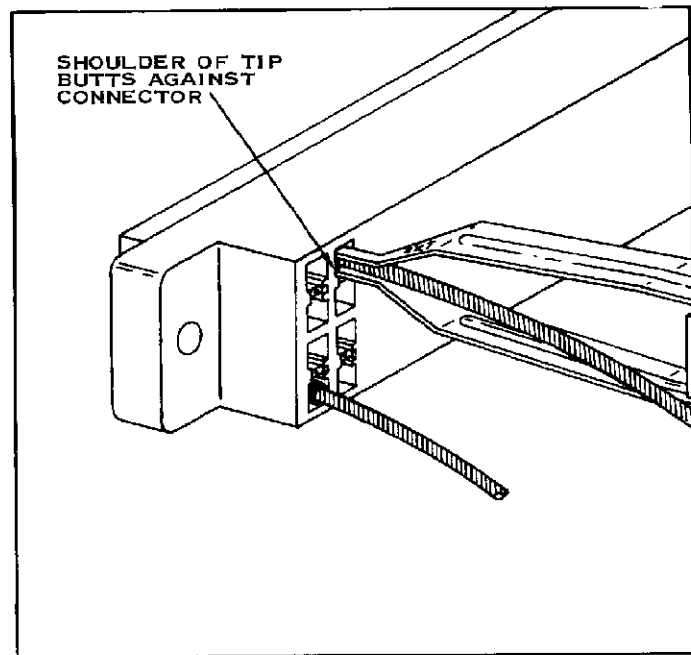

FIGURE 5
2. Insert the long Tip until its Shoulder butts against the Connector. Figure 5.